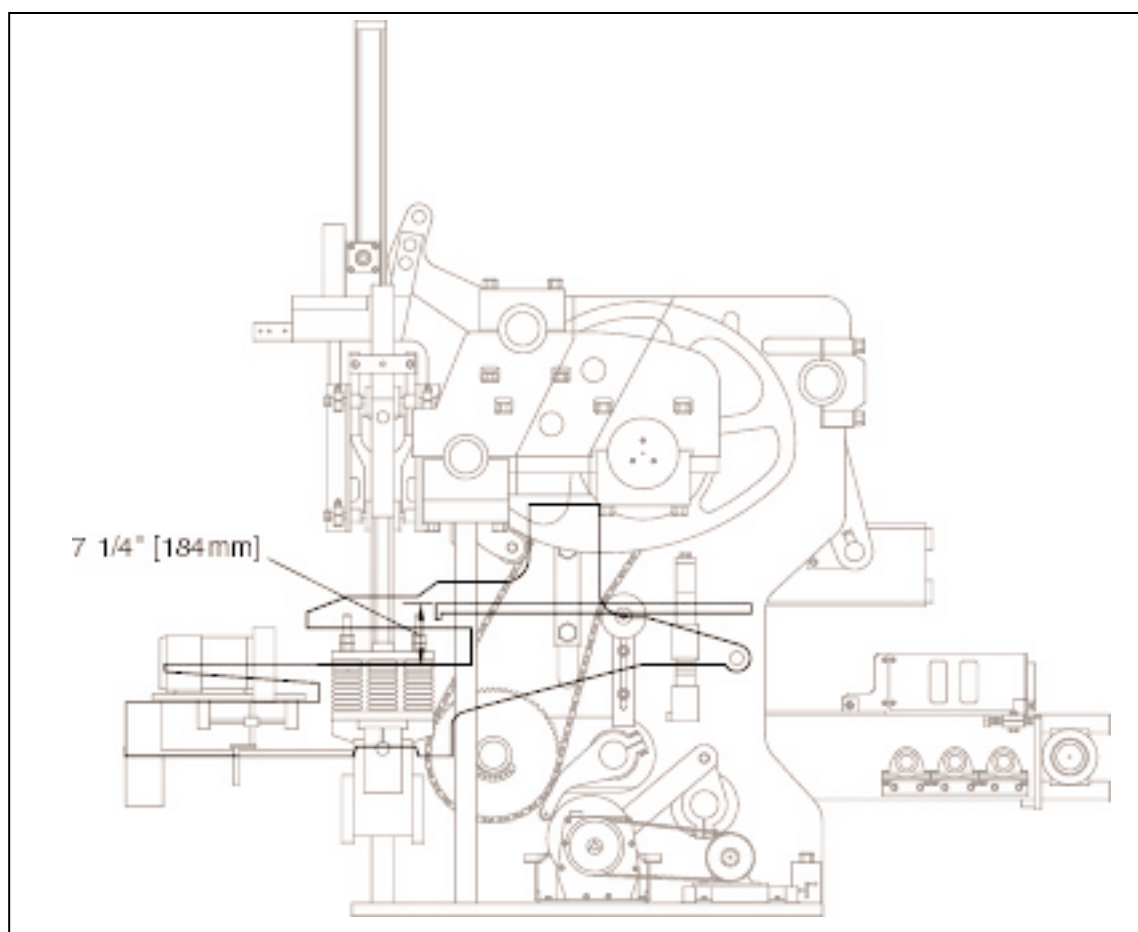

Figure 4.58 APRON PLATE ABOVE MOLD THROAT ADJUSTMENT.
4.4.3 Reconnect autofeed linkage and adjust so that the top of the apron plate is **184mm [7 1/4"]** above the mold throat at the lowest position of the autofeed (see figure 4.58). To adjust, lower or raise the autofeed until apron plate is in correct position.